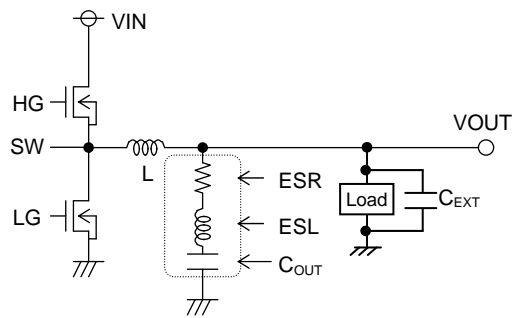

Fig.23 Output Capacitor
Also, give consideration to the conditions in formula (7) below for output capacitance, bearing in mind that output rise time must be established within the fixed soft start time. As output capacitance, bypass capacitor will be also connected to output load side ( $C_{EXT}$ , Fig.23). Please set the over current detection value with regards to these capacitance.